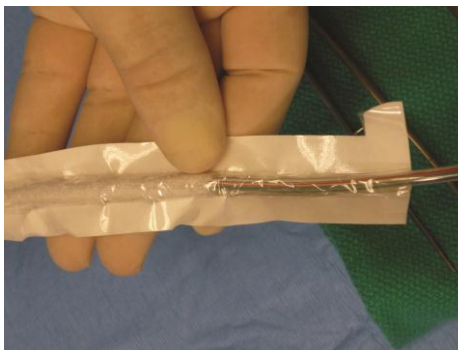

Figure 60: Tyvek sleeve covering polyester on driveline
6. Cover the HVAD® Pump with a sterile towel. With the driveline extended on the back table, remove the Tyvek sleeve (peel off by hand) covering the polyester covered portion of the driveline (see Figure 60). Wipe the driveline with a lap sponge moistened with antibiotic irrigation and discard the sponge.